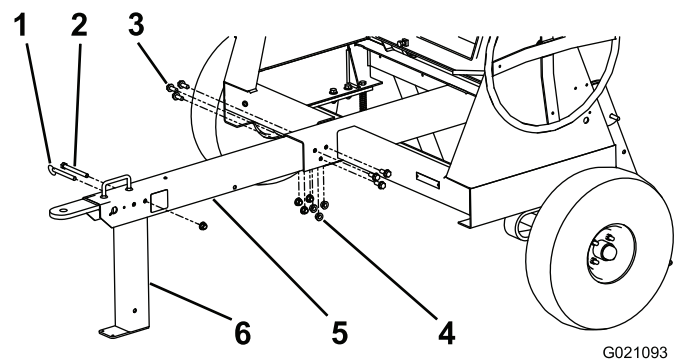

Figure 7
4. Install the tongue into the opening at the front of the machine, and secure it with 6 nuts and short bolts torqued to 102 N-m (75 ft-lb); refer to Figure 7.
5. Align the top rear hole in the front stabilizer leg to the hole past the handle in the front of the tongue (Figure 7).
6. Install the long bolt through the holes, and secure it with a nut torqued to 102 N-m (75 ft-lb); refer to Figure 7.
7. Insert the clevis pin to lock the front stabilizer leg in position (Figure 7).